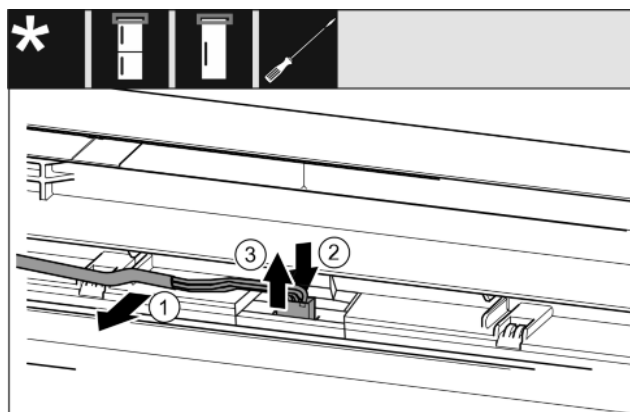

Fig. 16
- Carefully release the grey cable from the guide in the door. Fig. 16 (1)
- Push the lug behind the plug back carefully. Fig. 16 (2)
- Pull out the plug carefully upwards. Fig. 16 (3)